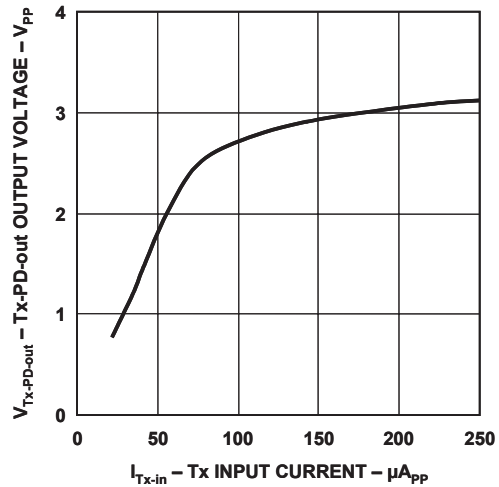
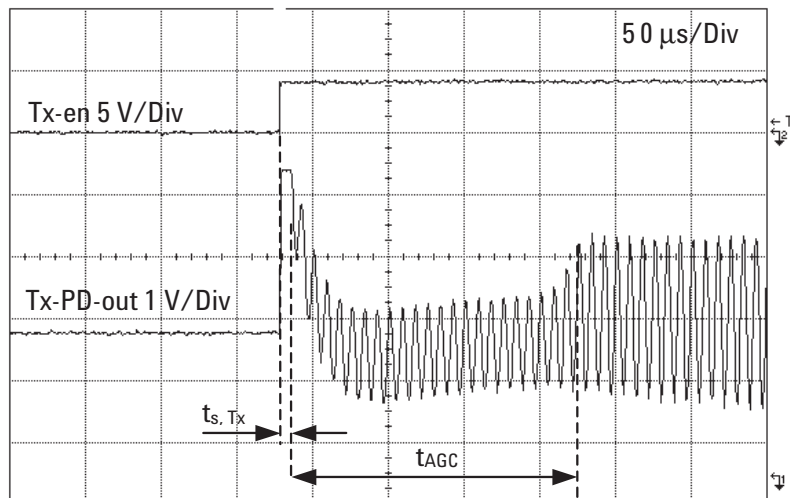

Figure 8. Tx-PD-out output voltage vs. Tx-in input current.
Figure 18. Tx-PD-out AGC response time.
1. Time from transmit is enabled (V_{Tx-en} is set to logic high) until output (Tx-PD-out) is available. See Figure 18 in the Application Information section.
2. Time from output (Tx-PD-out) is available until Tx-PD-out signal reaches 66% of its steady state level. See Figure 18 in the Application Information section.
This AGC circuit compensates for variations in the input signal level presented at Tx-in and variations in the optical channel over temperature and time. The Tx-PD-out output signal is effectively stabilized for input Tx-in signals of between 150 μA_{PP} and 250 μA_{PP} (see Figure 8). The AGC circuit starts to function 10 μs after the Tx-en signal is set to logic high. After a period of 180 μs the Tx-PD-out signal typically reaches 66% of its steady state level (see Figure 18). To ensure correct operation of the internal circuitry, an external 1 μF capacitor needs to be connected from pin 11 to GND2.